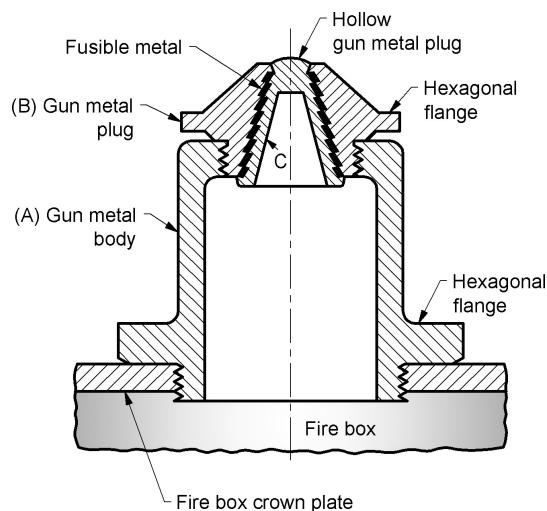

Fig. 2.6 Fusible plug
- (1) Fig. 2.6 shows schematic diagram of fusible plug. It consists of hollow gun metal body 'A' screwed into fire box crown plate.
- (2) The body has hexagonal flange to tighten it into the shell. 'B' is second hollow gun metal plug provided with hexagonal flange and is screwed into plug 'A'.
- (3) A third plug 'C' with conical top and rounded bottom, made from copper is locked with plug 'B' by pouring low melting point metal such as lead or tin between the groove as shown in Fig. 2.6.
- (4) The inner surface of 'B' and outer surface of 'C' are grooved so as to lock the plugs 'B' and 'C' when fusible metal is poured.